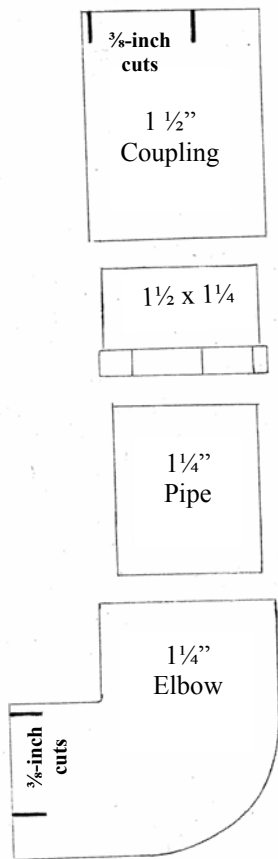

Figure 2.
1. Using hacksaw blade, make four ⅜ inch cuts on one end of the coupling and elbow as indicated in Figures 2 and 3 to allow for compression of pipe.
2. Glue PVC pieces together as indicated in Figure 2.